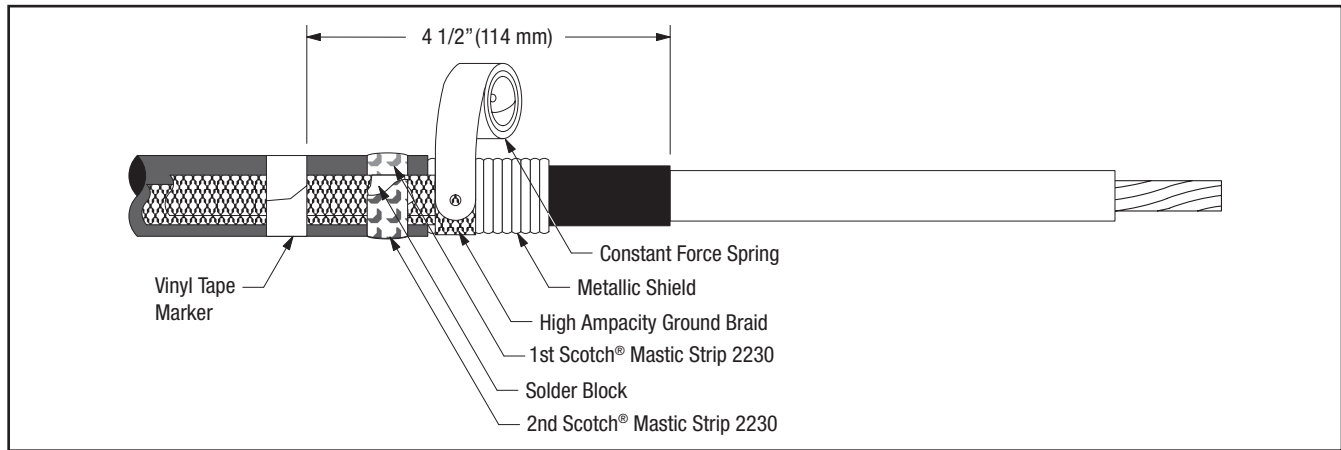

Figure 4
- 3.3 Wrap the high-amp ground braid around the metallic cable shield and secure in place with constant force spring. Cinch (tighten) the spring after wrapping the final turn. Position the high-amp ground braid tail (with solder block over mastic strip) over the cable jacket and parallel to the first ground braid tail (Figure 4).
3.4 Select second Scotch® Mastic Strip 2230 from kit and remove white release liners. Apply a second SINGLE WRAP of mastic over solder block on high-amp ground braid and previously applied mastic. If high-amp ground braids overlap on cable jacket be sure to apply mastic between the solder block of the high-amp ground braids. Secure ground braid to cable jacket 4 1/2" (114 mm) from cable semi-con edge using vinyl tape. Apply tape directly over previously applied marker tape (Figure 4).